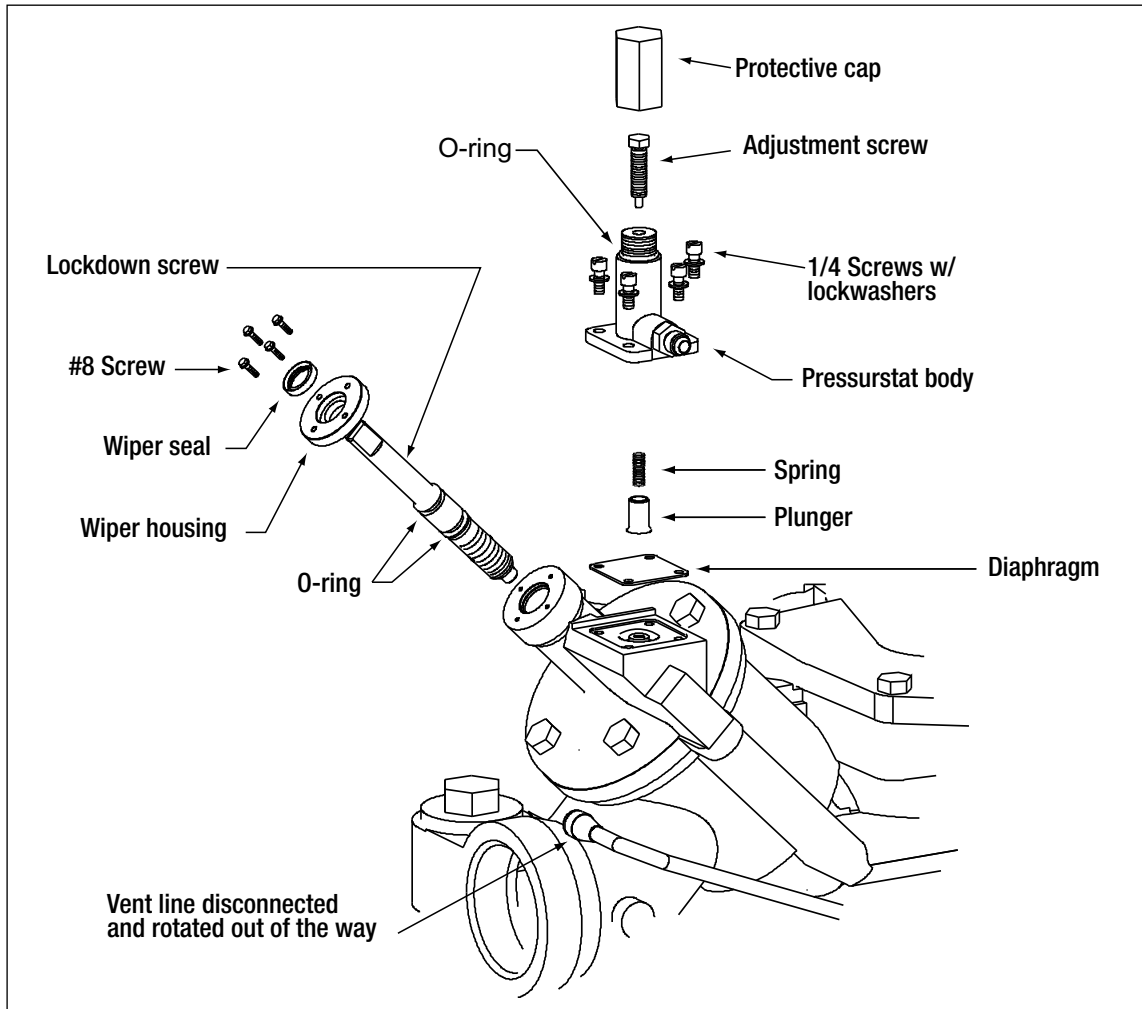

Figure 22. Pressurstat and Check Valve Lock-Down Screw Assembly
2. Lock down screw removal (see Figure 22).
- c. Using a flat piece of metal at least 1/2 inch larger than the OD of the wiper, carefully drive the new wiper into the wiper housing, orienting the wiper as shown in Figure 22.